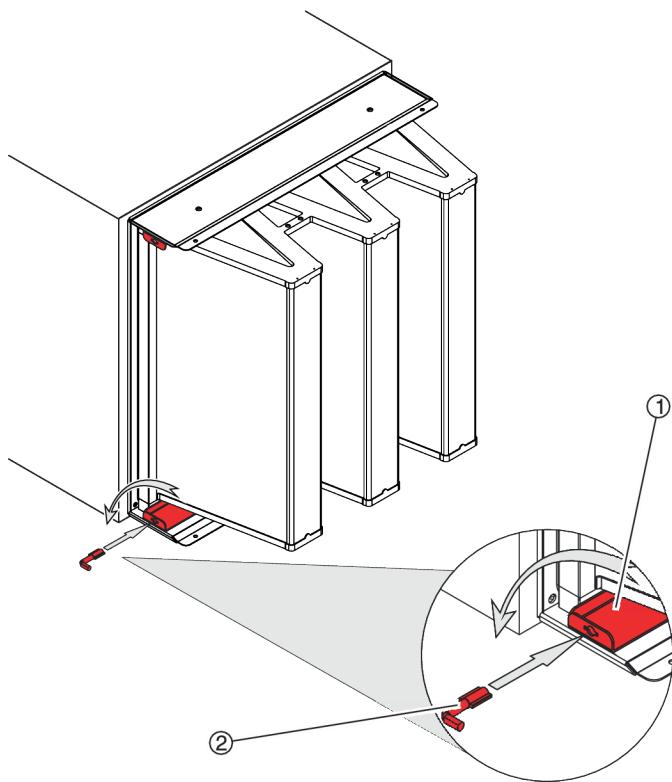

Fig. 23: Inserting the special key
3. ▶ Insert the special key (Fig. 23/2) in the opening provided in the clamping rail (Fig. 23/1) and turn it 90° anticlockwise.